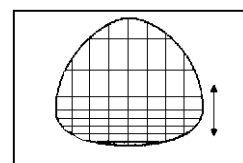

Fig. 4
- d) Adjust the vertical symmetry to obtain symmetrical scanning between upper and lower picture (Fig.4).